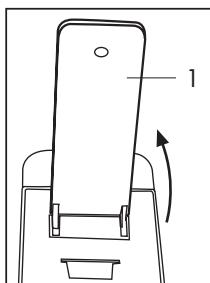
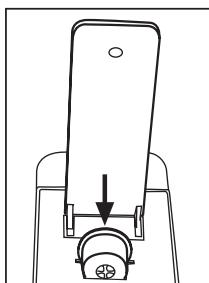

Fig. 8
Fig. 9
- Lift the control lever (1) (**Fig. 8**) completely and insert a capsule in the space provided. (**Fig. 9**)